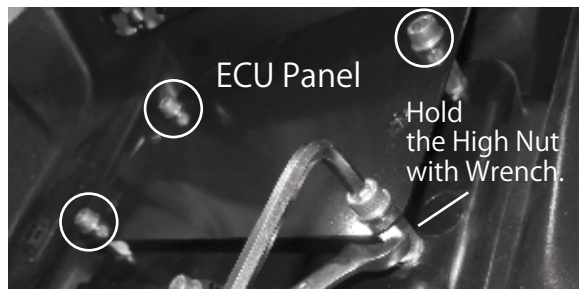

Figure 12. ECU Panel Removal
3. Remove the four 6 mm bolts and washers securing the ECU panel to rear cover (Figure 12).
- Secure the ECU panel to the nuts securing the sensor panel with the four 6 mm bolts and washers that were removed earlier (Figure 12).